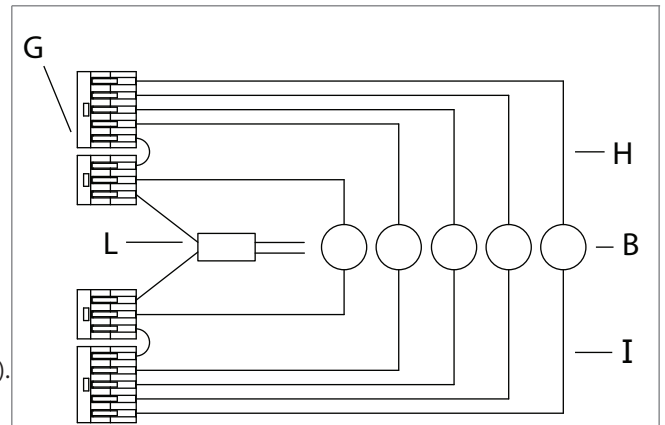
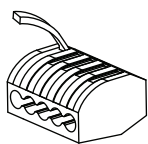

Fig. 3
Fig. 2
1. Shut off power to the outlet box. (A)
2. Feed the power cords (B) through the bushings (C) on canopy (D).
3. Determine the height at which the fixture is to be hung. Use the screwdriver (E) to loosen the set screw (F). Adjust the cord (B) to the desired length. Tighten the set screws to set.
4. Connect the fixture wires to the lever nuts (G) by pulling up on the lever for an empty slot (Fig. 2), inserting the wire, and pushing the lever back down to lock. The white inner conductor (H) and black outer conductor (I) on each cord (B) must be connected to separate lever nuts, as shown (Fig. 3).
5. Reserve extra cords (B) and lever nuts (G) in canopy (D).
6. Loosen the screws on the safety cable coupling (J) and undo the loop. Pass the safety cable through a hole on the mounting plate (K) and insert the end back through the coupling to form a loop. Tighten the coupling screws to secure the safety cable.
- a. Connect the transformer's (L) live wire (black) to the live outlet box wire.
- d. Carefully place connections and transformer (L) in outlet box (A).
8. Attach mounting plate (K) to the outlet box (A), secure with outlet box screws (M). Use anchors (N) and wood screws (O) for extra support (included).
9. Attach canopy (D) to mounting plate (K), secure with finials (P).